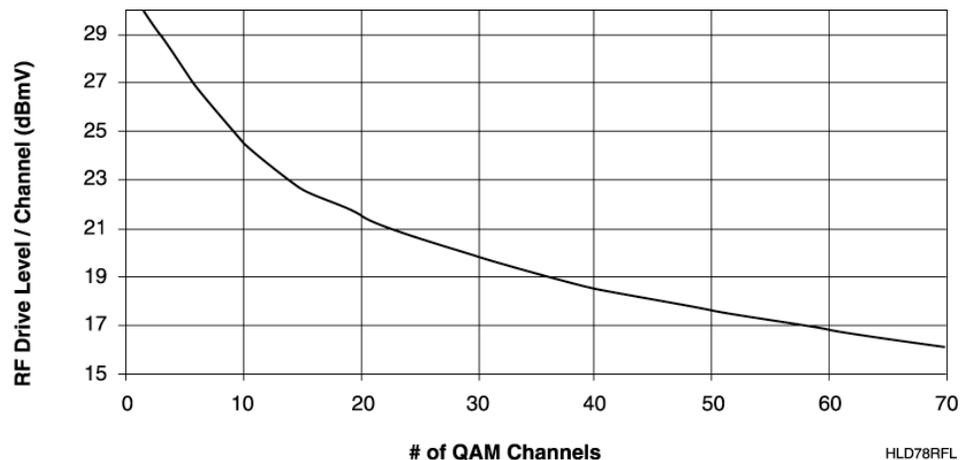

Figure 4-2. Maximum RF drive level per channel
3. From Figure 4-2, determine the maximum RF drive level you can use per QAM channel for the number of QAM channels determined in Step 2. For example, if you are going to transport 9 channels, the RF drive level per channel should not exceed 25 dBmV.